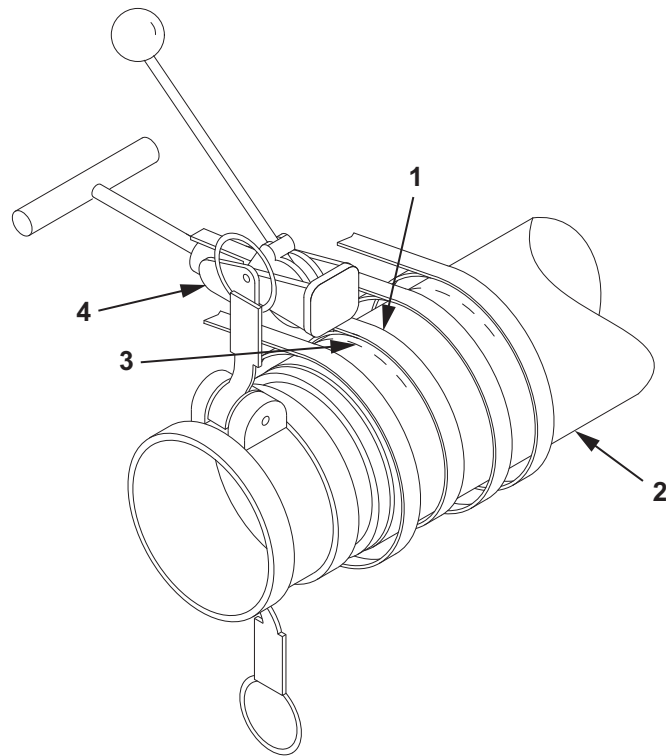

Figure 6. 4 In. X 10 Ft. Discharge Hose Repair.
13. Position the first clamp (Figure 6, Item 1) on the hose assembly (Figure 6, Item 2) until it is aligned with the first mark (Figure 6, Item 3) previously made on the hose assembly (Figure 6, Item 2).
14. Using clamping tool (Figure 6, Item 4) from hose repair kit, tighten the clamp (Figure 6, Item 1) until almost flush with the hose assembly (Figure 6, Item 2) surface.